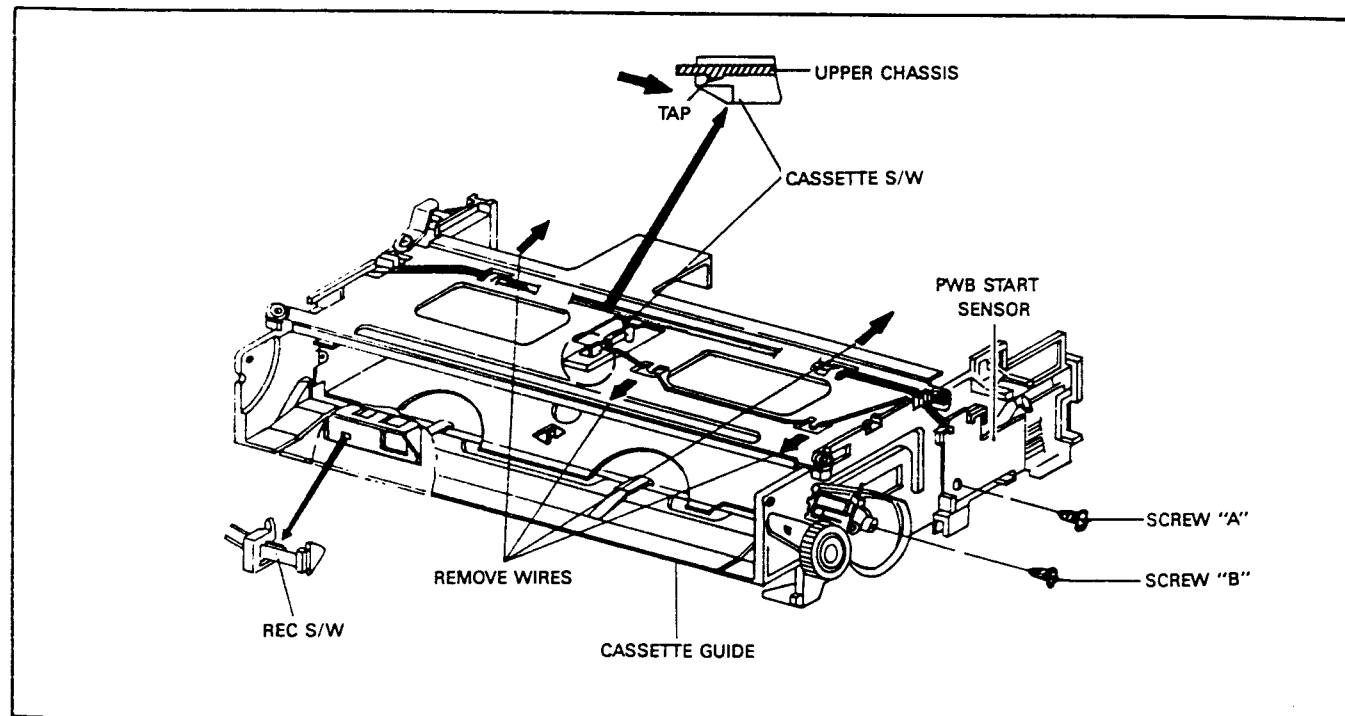

Fig. 15 Rec S/W / Cassette S/W / Pwb Start Sensor / Side Arm (R) Removal
2. Remove REC S/W (Fig. 15)
4. Release the tab of the cassette S/W and remove the cassette S/W. (Fig. 15)
5. Pwb Start sensor removal (Fig. 15)
- After removing the screw (A) at the side chassis (R), disintegrate PWB start sensor.
6. Remove the wires. (Fig. 15)
8. After removing the screw (B), remove the side arm (R) (Fig. 15)